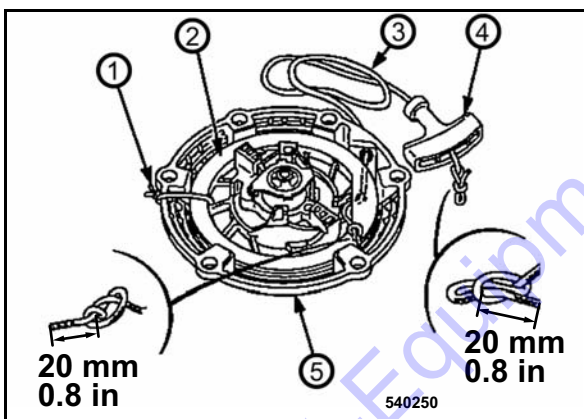

Fig. 70
- Secure the coil (2) (Fig. 70) against winding up. For this purpose fix coil and housing (5) with a cable strap (1).
- Thread in the new starter rope (3) and fix at both ends with knots.